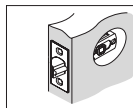

Figure 5a
- Make sure the face plate sits flush with the door. Do not force the latch into the mortise flush. Chisel out excess material if necessary for a flush fit (Figure 5a).